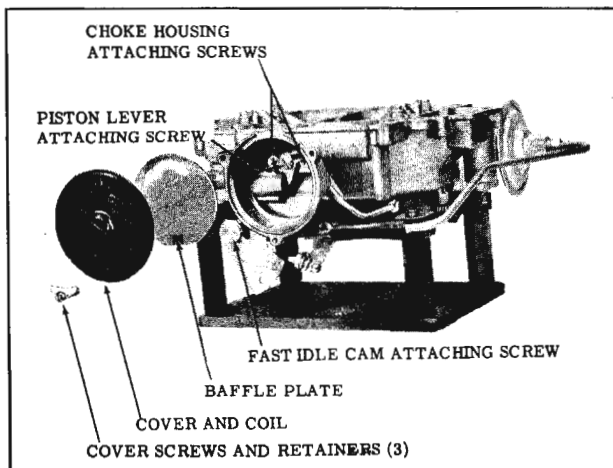

Fig. 9-15 Choke Assembly and Fast Idle Cam
14. Install the choke housing gasket, intermediate choke lever and shaft with linkage, in the choke housing. (Fig. 9-15)